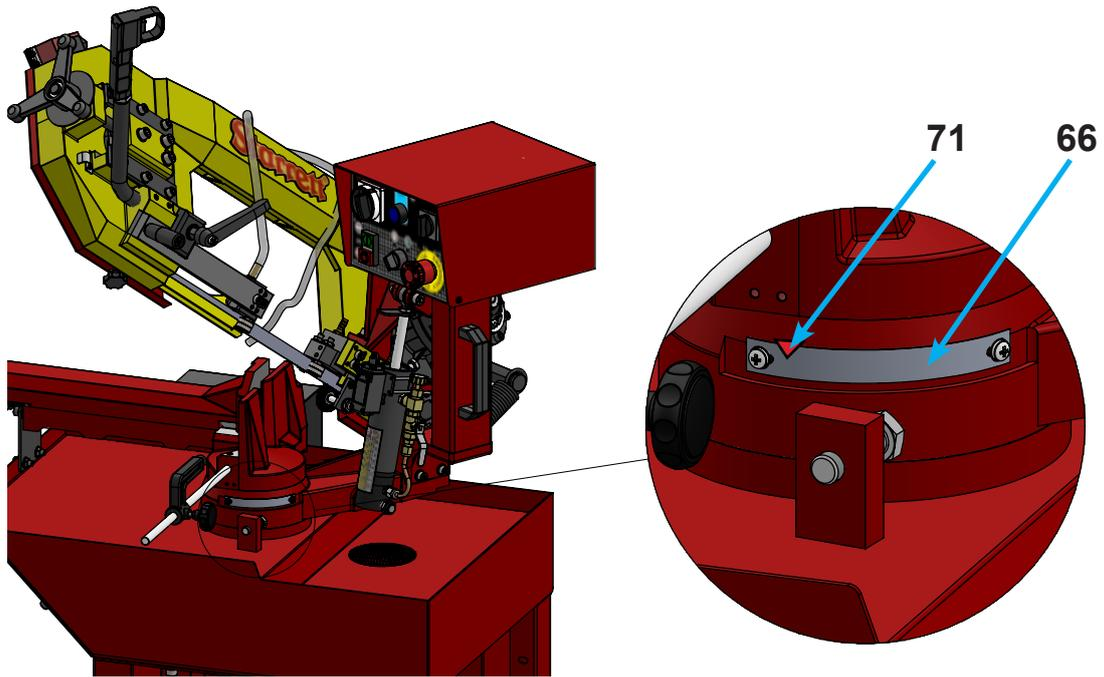

FIGURE 11.6 - BOW POSITION FOR 60° CUTTING
ALWAYS CHECK if the Bow (04) is locked by the Lever (65) (figure 11.6).